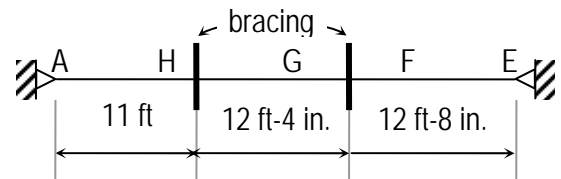

Figure 2c. (top view of bracing)
- The bottom chord is laterally braced at each end and across the span as show in Figure 2c.